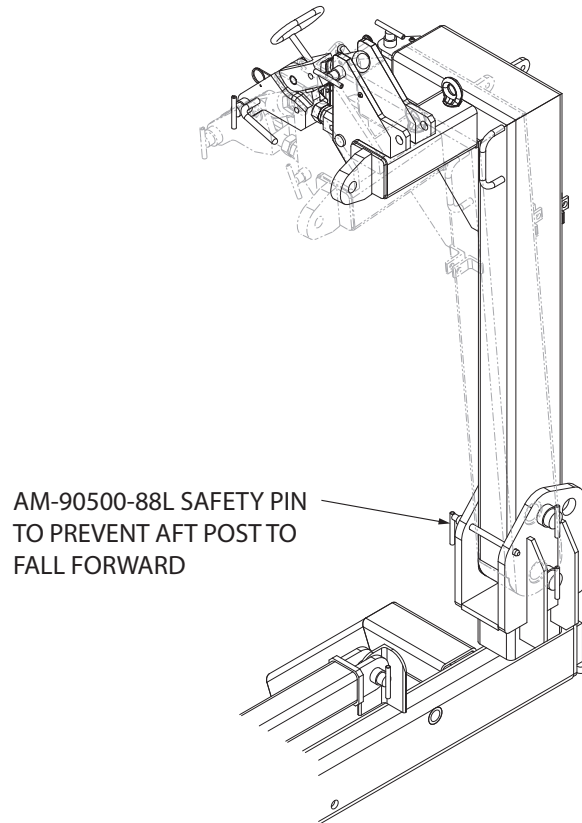

Figure 5.2-4
Two (2) AM-90500-88L safety pins are installed on the FWD side of the two AFT post mounting brackets on the cradle to prevent the AFT posts to fall forward. (Illustration Figure 5.2-4)